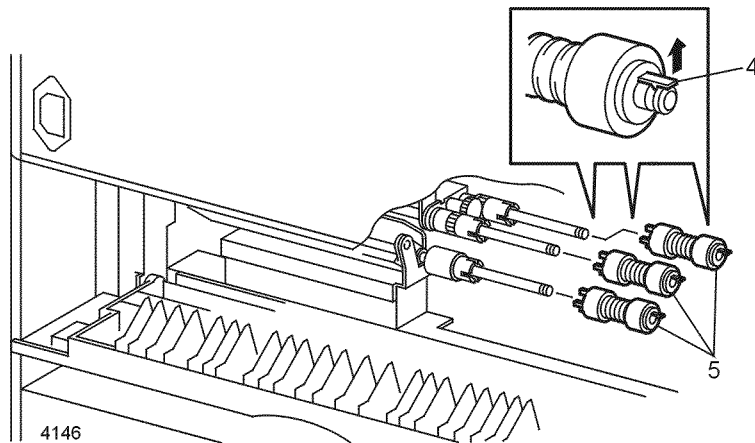

Figure 1 Feed, Nudger, and Retard Roll
4. From the rear of the feeder, carefully lift the locking tab on the roll you wish to change (Figure 1).
5. Slide the roll off the end of the shaft (Figure 1).